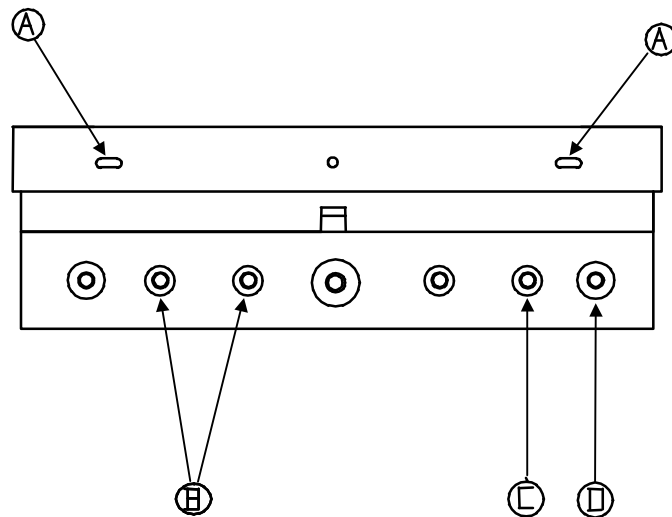

Figure 2-1 : Cougar Terminal Access and Connections
- Insert the tip of a flat-blade screwdriver into one of the two slots (A) located on the bottom of the front panel assembly (see Figure 2-1) and gently push in toward the enclosure. Push in on the side of the slot farthest from the front face of the cover. You should hear a quiet pop when the cover is released.